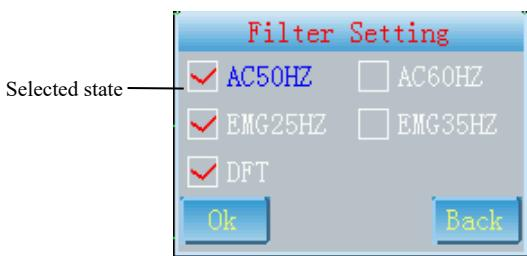

Fig. 7-3
1.  Enter "Filter Setting" interface as Fig.7-3.